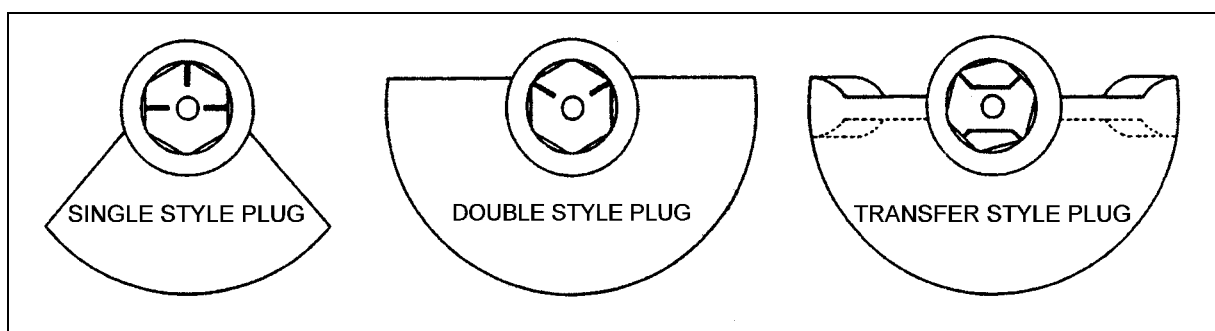

Figure 1— Plug Stem Stampings
7. Note the stampings in the top of the valve plug stem. These stampings correspond with the plug face as shown in Figure 1. It is important that the plug position be noted to ensure it is in the correct position during ACTUATOR INSTALLATION.